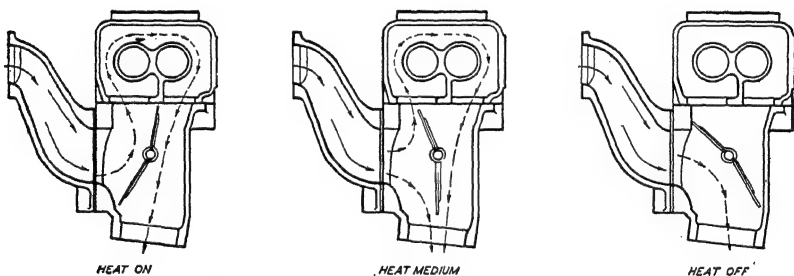

Fig. 14. Buick Heat Control Valve Operation
*Operation of the Buick Heat Control.* The Buick intake manifold feed control system utilizes the exhaust gases of the engine to insure complete vaporization with a minimum consumption of fuel. This result is accomplished by surrounding the center portion of the intake manifold with a heat jacket, Fig. 14. which is connected to the exhaust system. As the hot gases pass from the exhaust manifold into the heat controlled valve body, they strike the heat controlled valve and are lifted upward into the heat jacket around the intake manifold. The gases next pass out of the heat jacket
back into the heat valve body, but on the opposite side of the heat controlled valve. Thus, the heat controlled valve acts both as a valve and as a partition. The amount of heat delivered to the heat jacket is automatically controlled by means of a thermostat which governs the quantity of exhaust gases and, consequently, the amount of heat by determining the position of the heat controlled valve. As shown in Fig. 14, the greatest amount of heat is available when the valve is in the "heat-on" position. The amount of heat decreases to the "heat-medium" position and the "heat-off" position. The heat control valve is so designed that when the engine is operated under